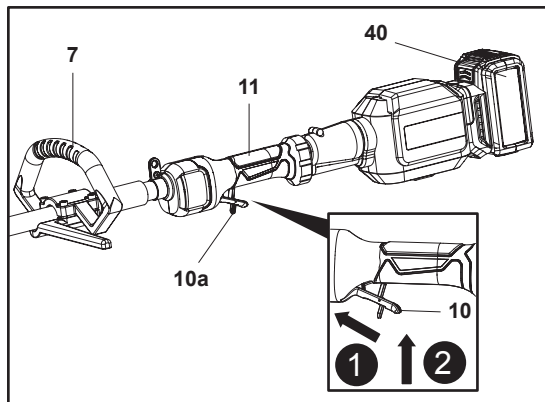

Fig. 31
1. Ensure that the battery pack (40) is assembled on the battery docking port (13).
2. Ensure that the trimmer head (1), the saw chain (14), the hedge trimmer blade (25) or the cutter blade (35) do not touch any objects. Remove the guide bar cover (24) or the hedge trimmer blade cover (31) from the saw chain (15) or the hedge trimmer blade (25) before switching the product on.
3. Hold the product with one hand on the main handle (11) and the other hand on the auxiliary handle (7). Do not start the product while handling it with one hand.
4. Push forward the lock-off lever (10a) and hold it in position (Fig. 31, step 1).
5. Squeeze the on/off switch (10) to switch the product on (Fig. 31, step 2). Release the lock-off lever (10a) afterwards.
6. Release the on/off switch (10) to switch the product off.